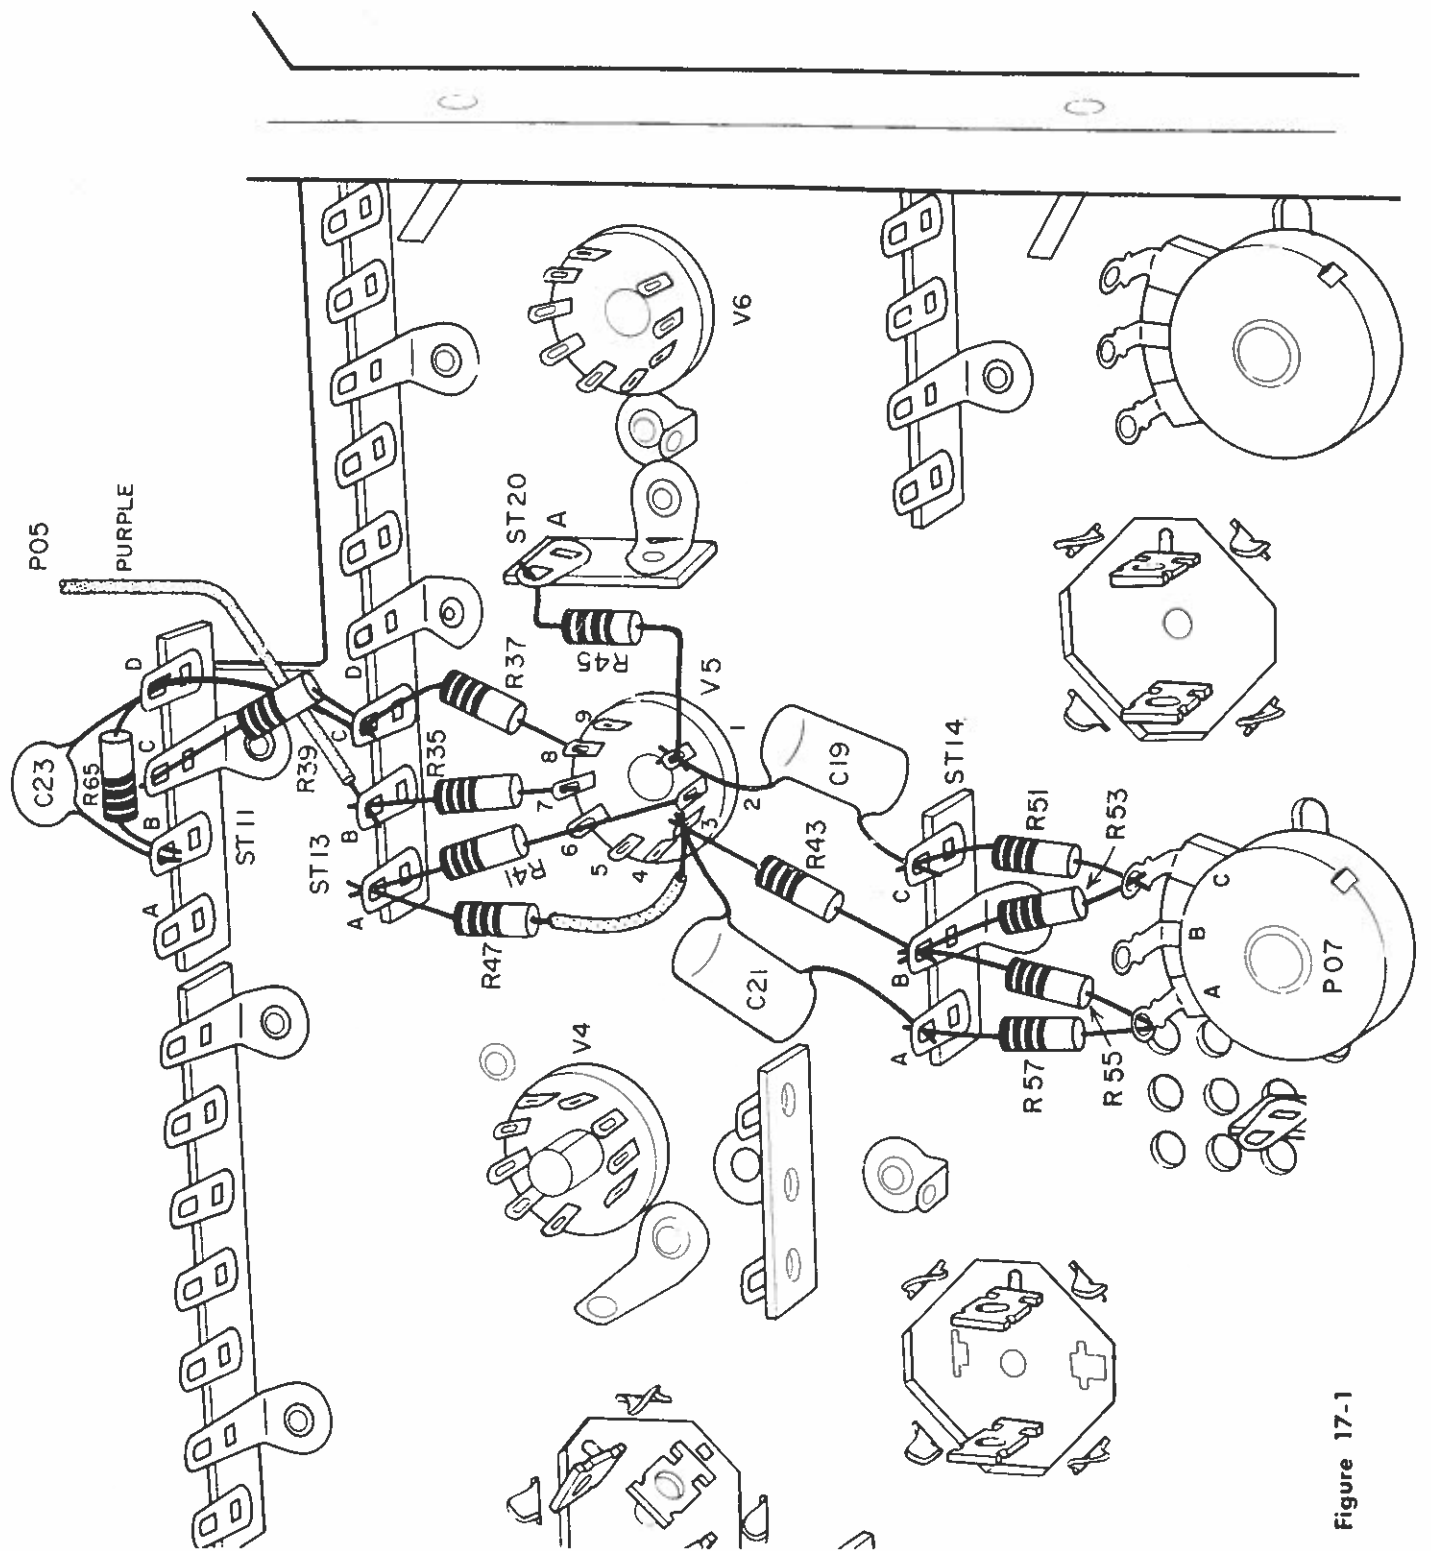

Figure 17-1
**Step 17A**  Locate the purple wire from control P05. (Next to the dual volume control). Run it as shown in Fig. 17-1 and connect it to lug B of strip ST13.
Cut both leads on a 68K ohm resistor, R45, (blue, grey, orange) to ½ inch. As shown in Fig. 17-1, bend the resistor leads opposite to each other and connect R45 from lug 1 of V5 to lug A of strip ST20. Solder lug 1 of V5.